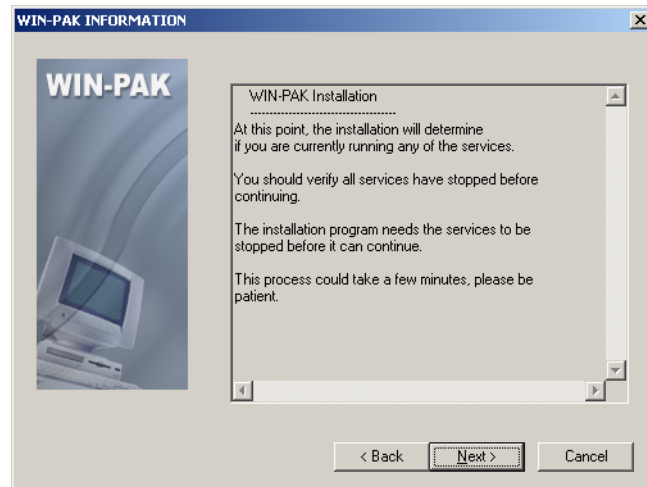

Figure 2-2 WIN-PAK Information
4. Click **Next** to continue installation. *Figure 2-2* appears.